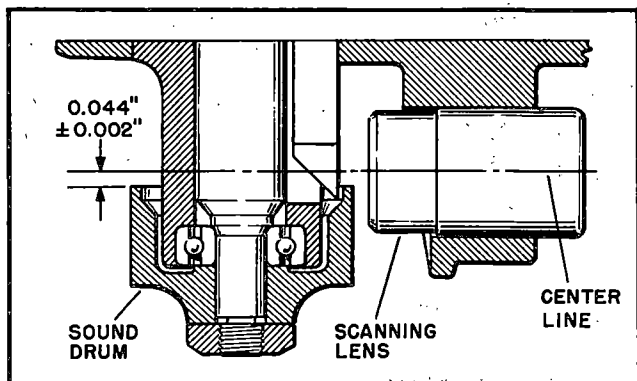

Figure 3. Positioning the Sound Drum
## 35. FEED REEL ARM ASSEMBLY. (See Parts Catalog figure 3.)
a. Insert the stabilizer housing assembly (9) carefully into and through the mounting plate (43). Adjust position of stabilizer housing so that its light pipe prism will be perpendicular to the scanning lens when lens is installed. The inner face of the sound drum should extend 0.044-inch ( $\pm 0.002$ -inch) beyond the centerline of the scanning lens, as shown in figure 3. This dimension is obtained by use of the sound drum adjustment gage, Tool Number S-061082-N1 (figure 2).